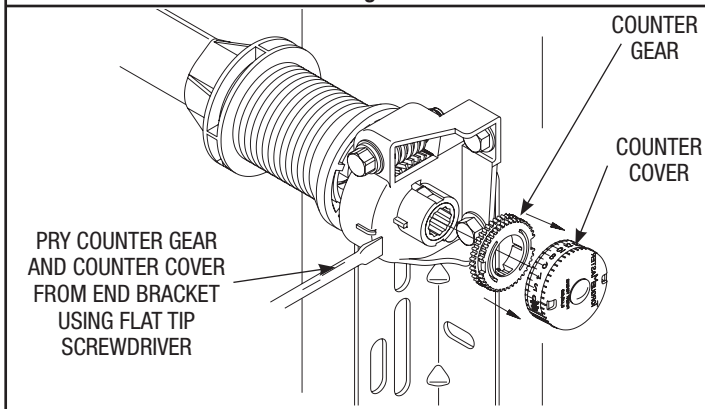

Fig. 4
**Step 4:** Using a flat tip screwdriver, pry the counter gear and counter cover from the right hand end bracket (Fig. 4 on previous page). Discard the counter gear and counter cover. On double spring applications, repeat for left hand side.